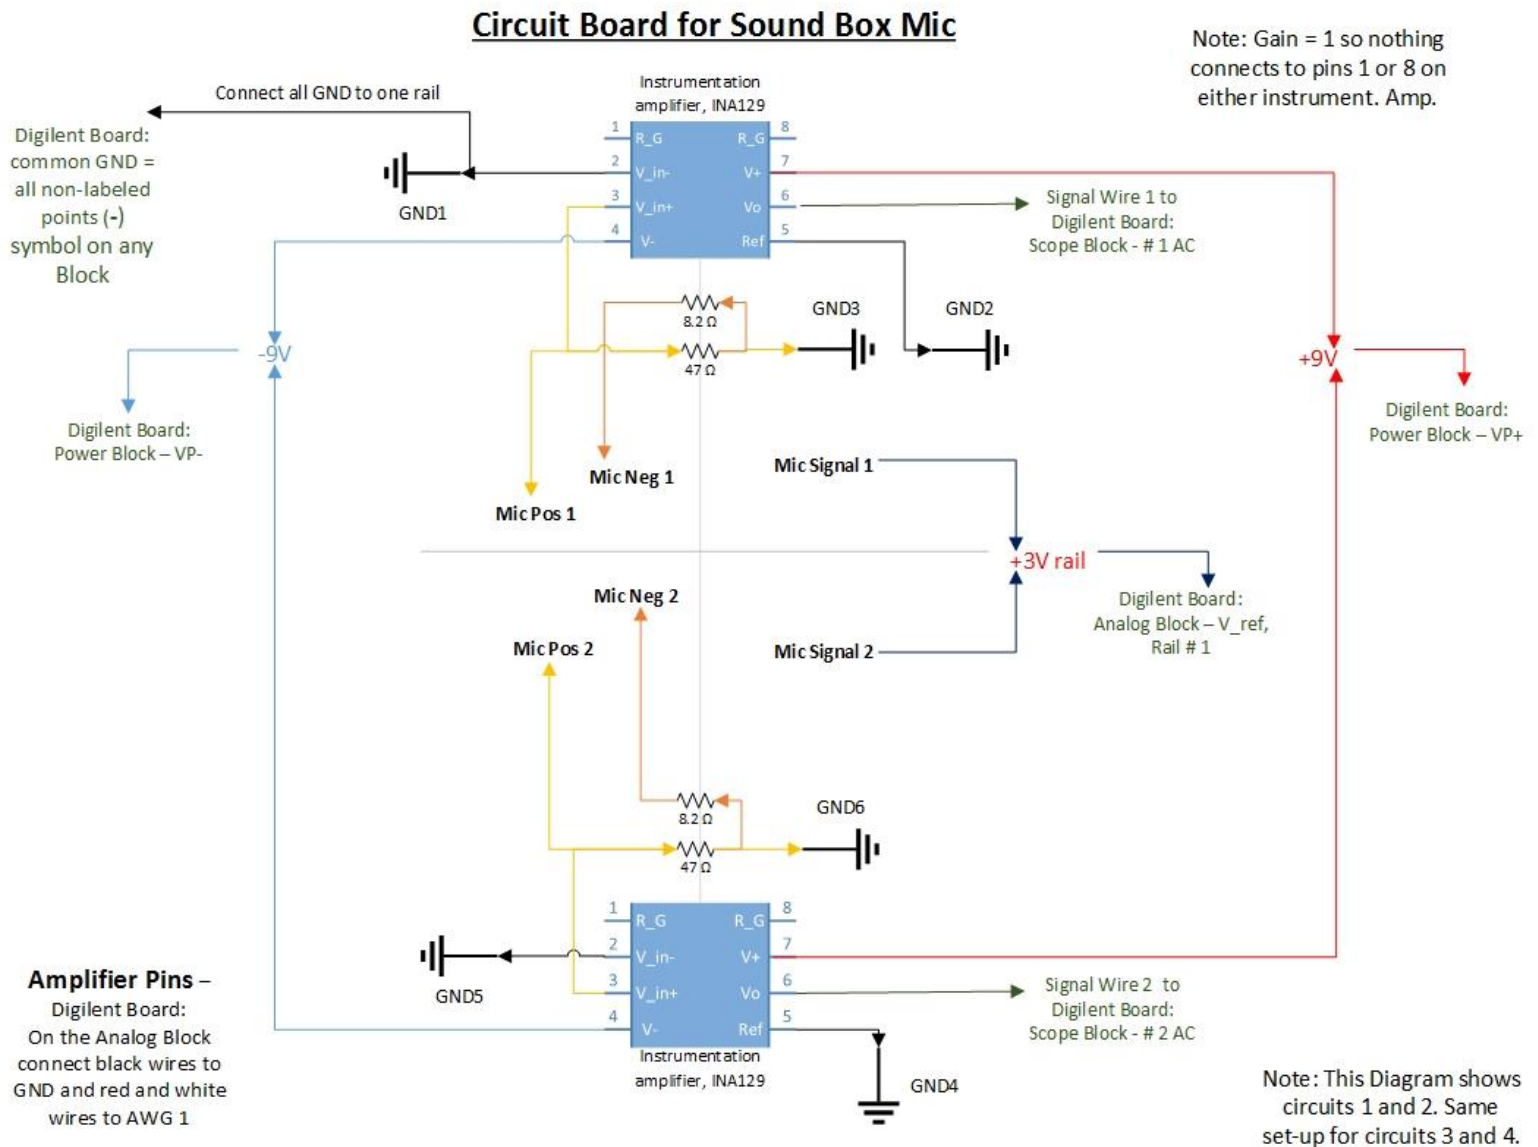
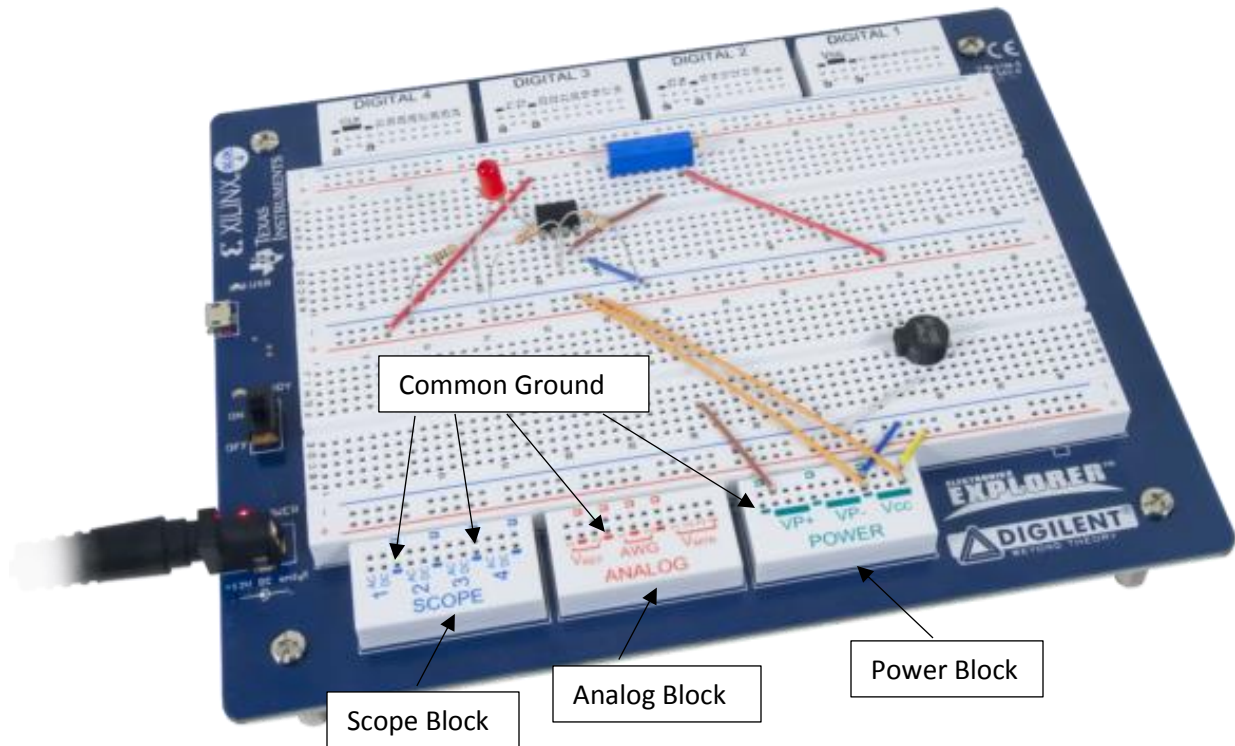

Figure 7: Circuit Connection Diagram and Digilent Board connection
Figure 8: Digilent Explorer Board
1. Ensure circuit wires are connected to the Digilent Board Correctly. See Figure 7 and Figure 8 (Four Complete circuits should already be set-up and labeled).